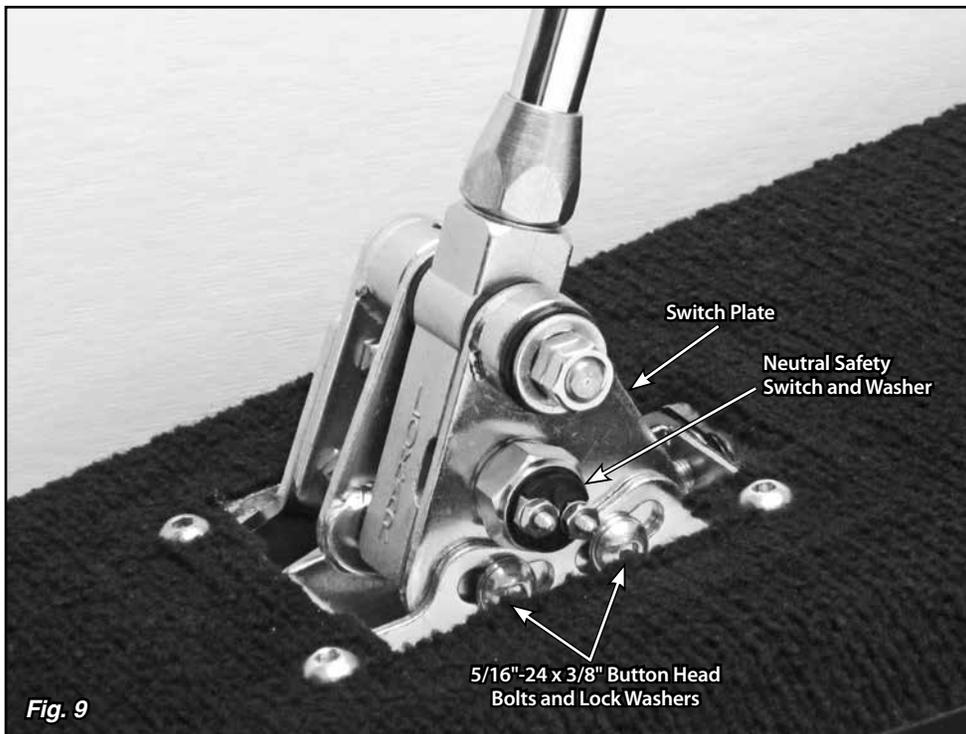

Fig. 9
**Step 14:** Remove the neutral safety switch and washer (**Fig. 9**) from the passenger side of the Shifter using a 7/8" wrench or socket.
**Step 15:** Loosen, but do not remove, the two 5/16"-24 x 3/8" button head bolts and lock washers that attach the passenger side of the floor mount mounting bracket to the switch plate (the bolts are in curved, slotted holes). **Fig. 9**